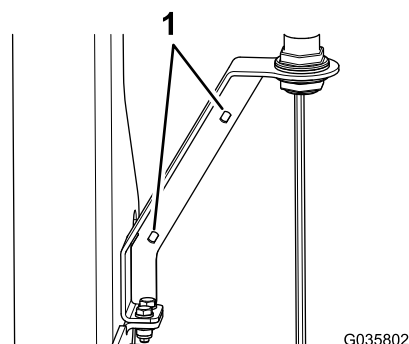

Figure 8
9. Insert a cable tie through each of the 2 holes in the beacon bracket (Figure 8), and secure the cable.